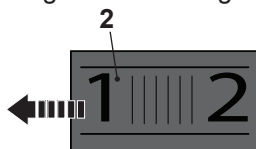

Fig. 11
1. Limit the maximum speed using the speed dial (2).
2. Turn the speed dial (2) left (as seen from the operators position) to increase the maximum speed (Fig. 11). A higher setting is suitable for sanding with fine-grained sanding belts to achieve a fine finishing.